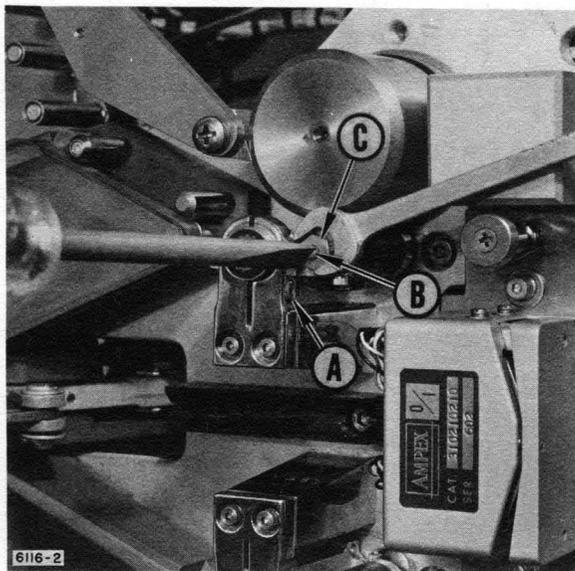

Figure 5-9a.
- Step 1: Loosen two yoke clamping screws (A) until yoke can be turned on actuator shaft with a slight drag as shown in Figure 5-9a.
The hexagonal element (c) in Figure 5-9a, adjusts the eccentric nearest the operator; the slotted element (b) in Figure 5-9a, adjusts the eccentric nearest the transport.